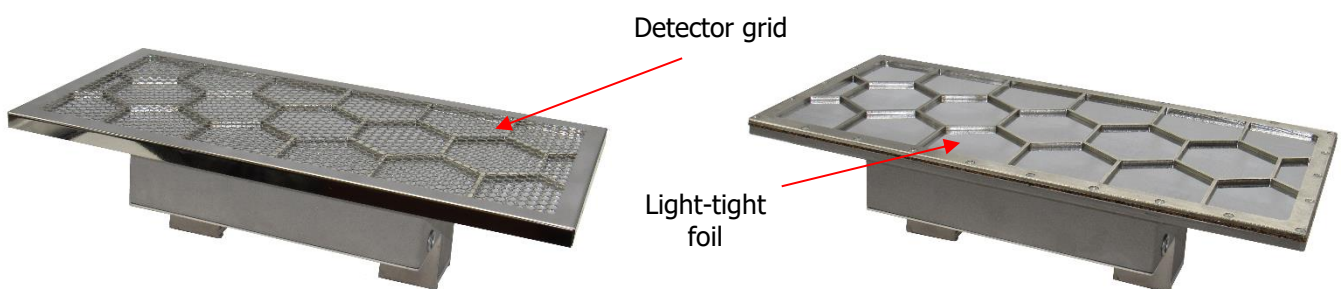

Fig. 89 Detector grid and light-tight foil
- Use a wrench (M13) to loosen the nut in the middle of the pillar of the instrument and lift the grids above the detectors (see Fig. 89).